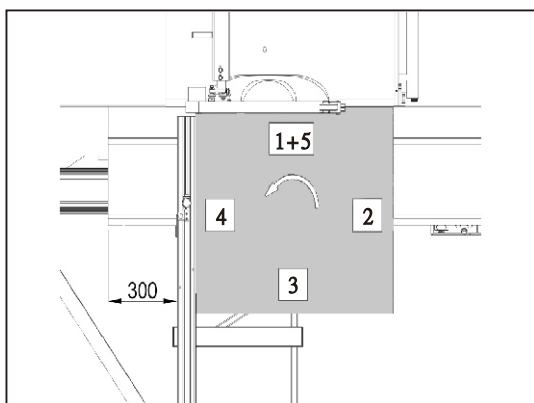

Fig.1
- 2.Sequentially cutting NO.1~5 as Fig.1.